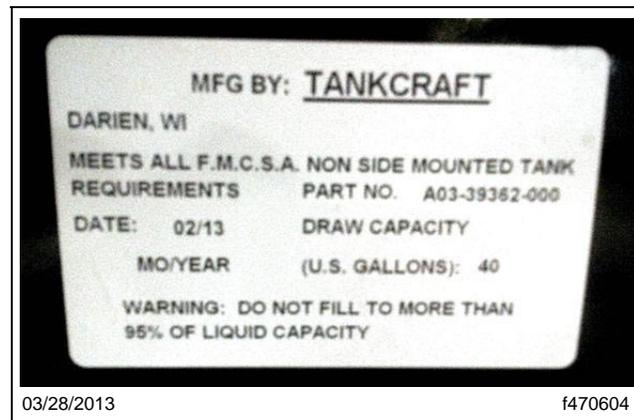

Fig. 1, Fuel Tank Date Code
9. Disconnect the electrical connections on the fuel tank header. See **Fig. 1**.
11. Push the primary latches in to disengage them from the vent hoses. If the latches fail to release, blow any debris out of the release mechanism and repeat the process. Once the latches have been removed, disconnect the fuel and vent hoses. See **Fig. 1**.